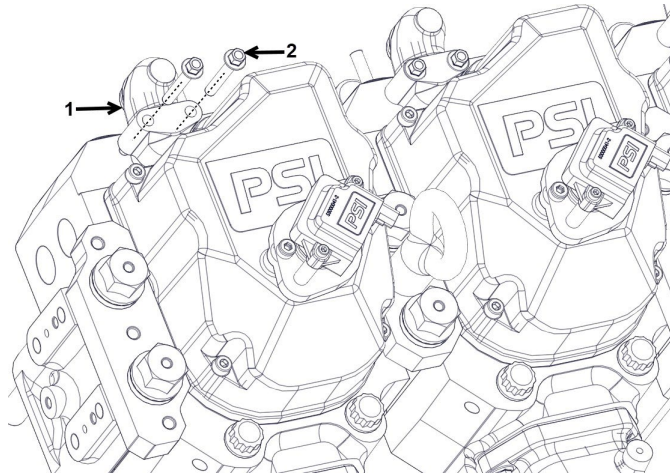

Figure 48.
1. Remove the spark plug and the two bolts (Figure 48, Item 2) from the pipe and remove the pipe (Figure 48, Item 1) from the cylinder head.